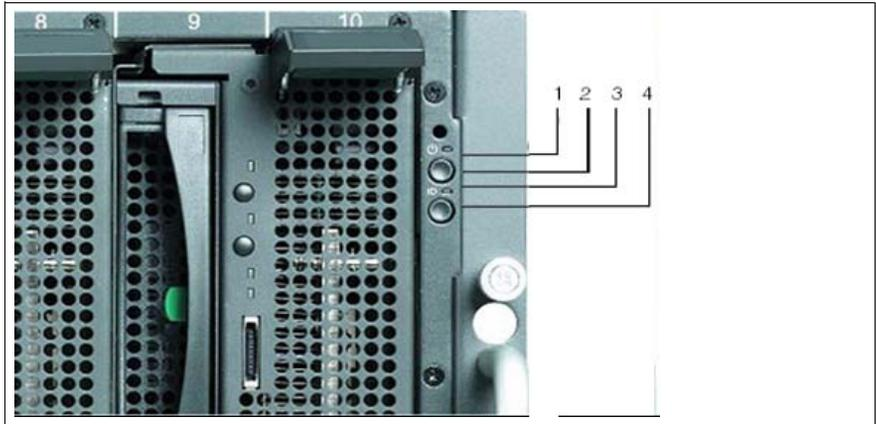

Figure 14: System operating and indicator elements on the front
- ▶ Press the basic unit power ON/OFF button (position 2 in figure 14 on page 50) for 2 seconds. Depending on the BIOS settings, the server blades can be switched on automatically one after another according to the slot numbering (see figure 28 on page 72).
- ▶ For **graceful shutdown** of all server blades, press the system power ON/OFF button (position 2 on figure 14 on page 50) for 4 seconds. The server blades will then be powered OFF.
- ▶ For **hard shutdown of** all server blades, press the system power ON/OFF button (position 2 on figure 14 on page 50) for 10 seconds. The server blades will be powered OFF immediately.